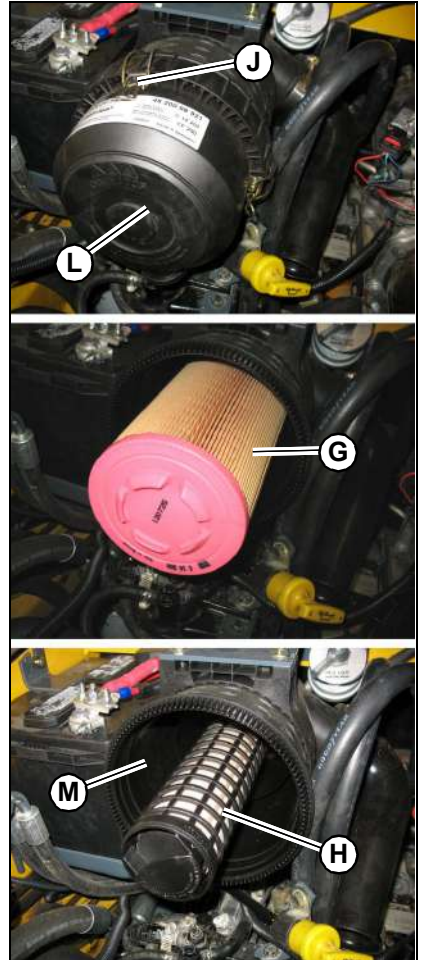

Figure 102 – Engine Air Cleaner
3. Unlatch clamps (J, Figure 102) on the air cleaner housing and remove the air filter cover (L).
5. Carefully remove the outer filter element (G).
6. Clean dirt from inside the air filter housing (M).
7. Remove inner filter element (H) only if it needs replacement.